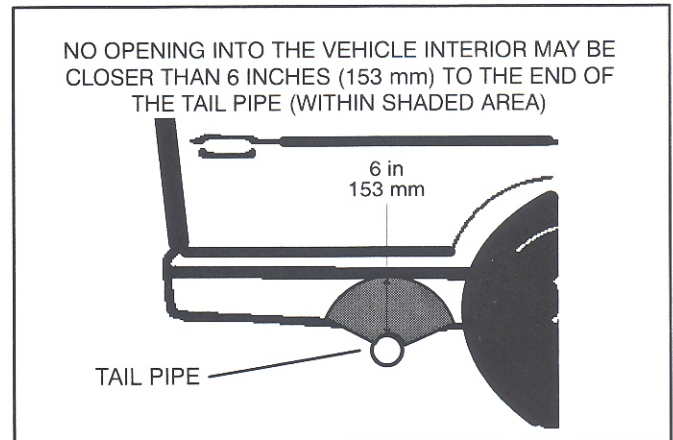

FIGURE 9. MINIMUM DISTANCES TO OPENINGS
8. Do not terminate the tail pipe such that it is closer than 6 inches (153 mm) to any opening, such as a door, window, vent or unsealed compartment, into the vehicle interior (Figure 9).